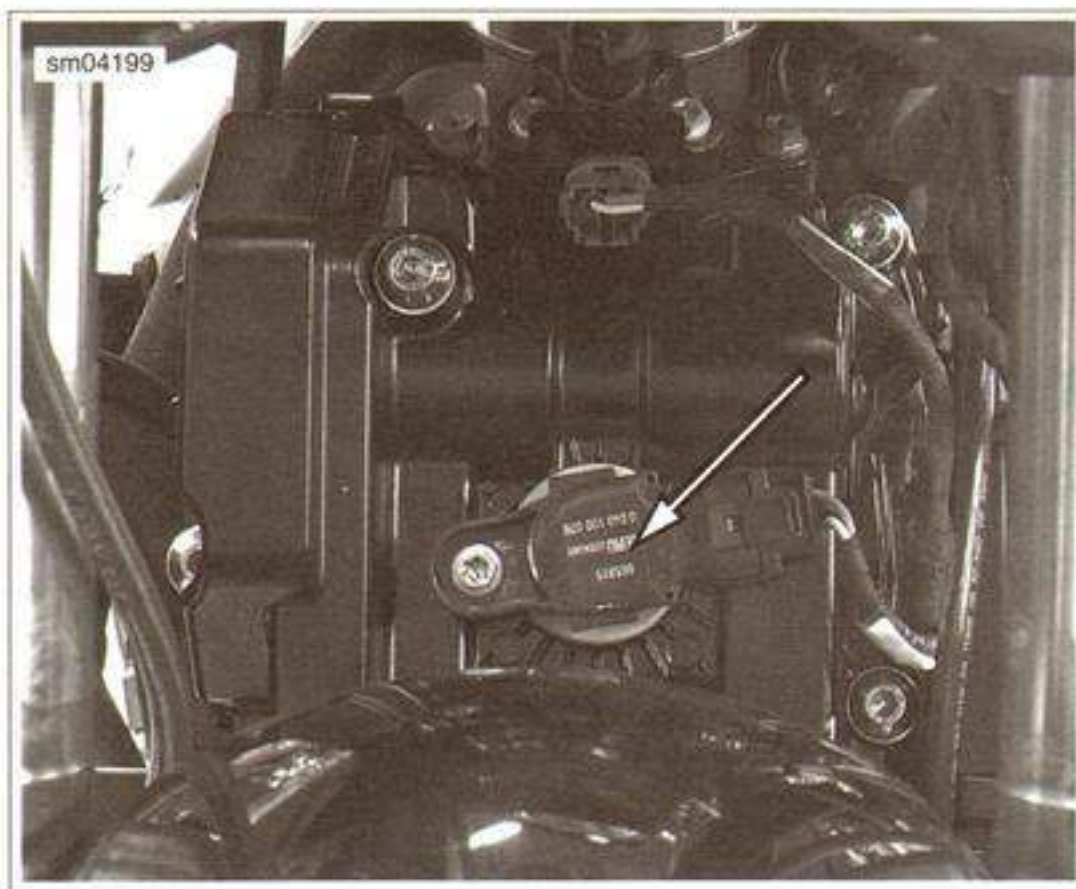

Figure 1-40. Front Spark Plug Location (engine rotated)
2. See Figure 1-40. To access the front spark plug, rotate the engine. See 3.4 ENGINE ROTATION.